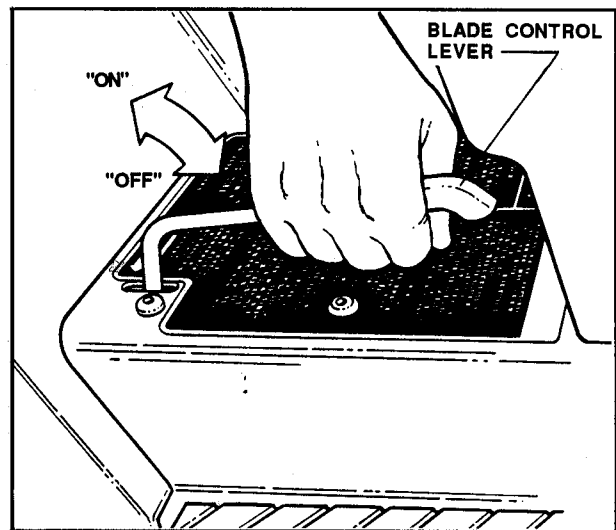
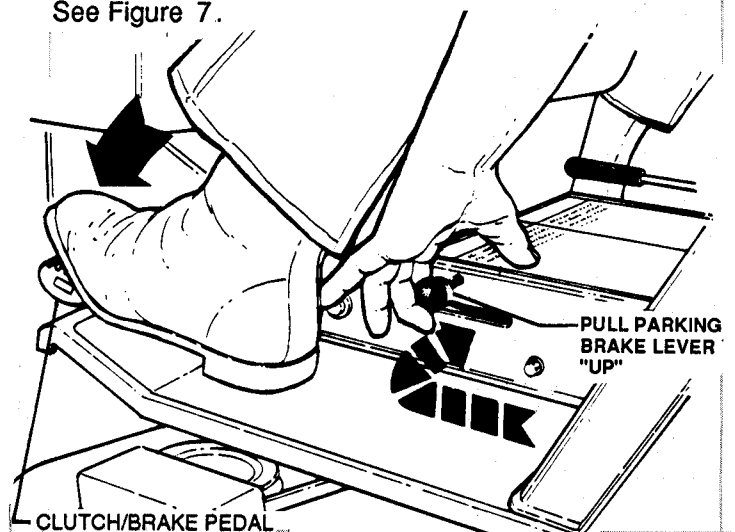

FIGURE 4
FIGURE 7
MOWER BLADE: STOP MOWER BLADE by pushing BLADE CONTROL lever downward to "OFF". See Figure 4.
1. PUSH BLADE CONTROL LEVER downward to "OFF" position (Fig. 4) and fully depress the CLUTCH/BRAKE PEDAL (Fig.7), so that Safety Interlock System will allow engine to start.
Depress CLUTCH/BRAKE PEDAL. Pull PARKING BRAKE LEVER "UP" while releasing pedal. See Figure 7.